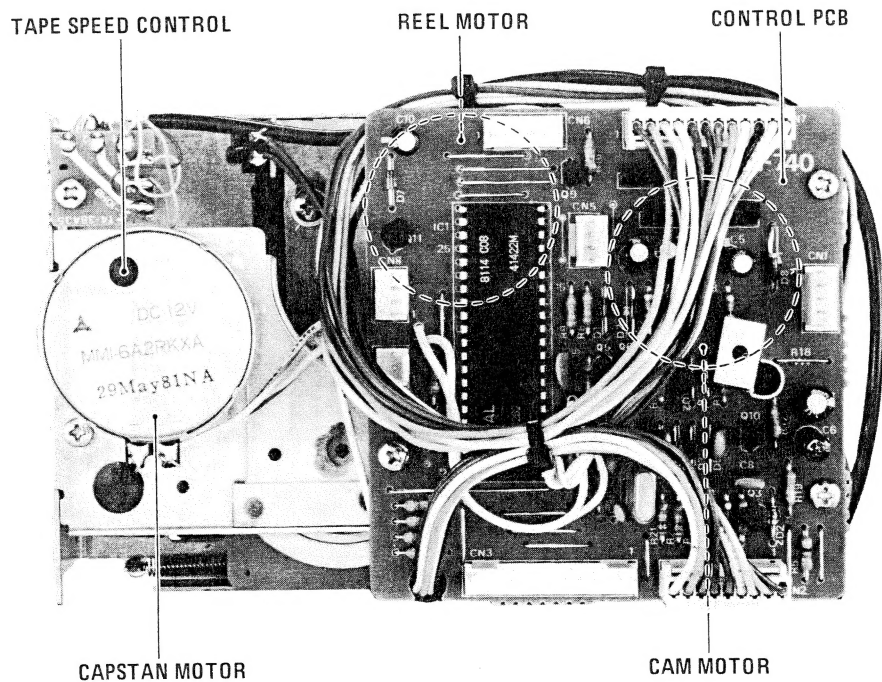

Fig. 3-4 Transport rear view
3. While the tape is playing, use a common slotted screwdriver with the handle completely insulated from the blade and adjust the control on the capstan motor (see Fig. 3-4) for a reading of $3000 \text{ Hz} \pm 5 \text{ Hz}$ on the frequency counter.